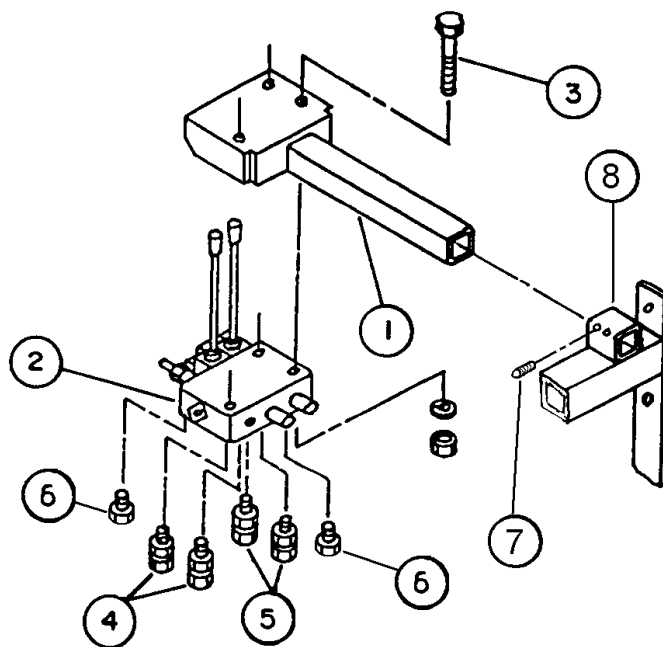

Figure 10
1. Install valve (fig.10, item 2) on underside of valve support bracket (fig.10, item 1) using three 5/16" x 2 1/4" bolts (fig.10, item 3), lockwashers and nuts. Tighten securely.
2. Install valve support bracket assembly in welded square tube either on 3 point hitch frame or on rear carrier. Secure with two 5/16" x 3/8" allen set screw (fig.10, item 7).
3. Install a 3/4"ORB x 1/2"NPT swivel adapter (fig.10, item 6) in the outlet and inlet spool ports.
6. Install a 3/4"ORB x 3/8"NPT swivel adapter (fig.10, item 5) in two of the remaining spool ports on valve, and connect broom hoses assembly male ends.
7. Install a 3/4"ORB x 3/8"NPT swivel adapter (fig.10, item 4) in the two of the remaining spool ports on valve, and connect cylinder hoses assembly.